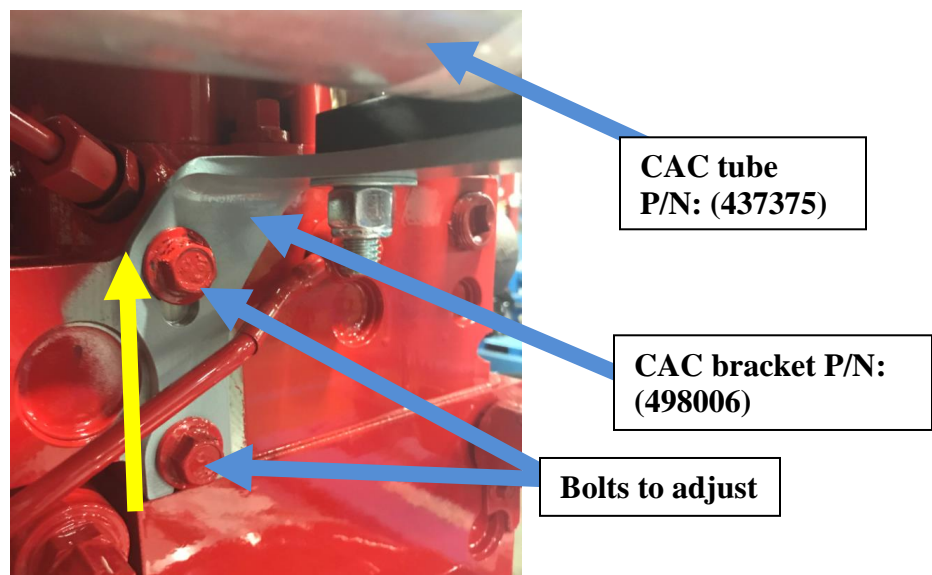

Figure 4: CAC bracket and CAC tube underside
4. Adjust CAC bracket P/N: (498006) to its highest point by loosening 2 bolts and lifting bracket vertically until it reaches the bottom point of the slot. Figure 4 shows a CAC bracket clamp P/N: (575053) at its lowest point, and a yellow arrow indicates the direction of adjustment to be made.
5. Re-torque bolts to 57 ft-lbs (dry) as shown in figure 4.